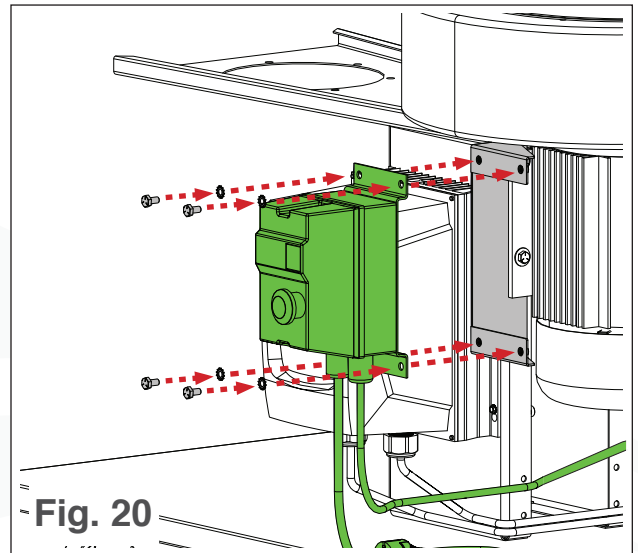

Fig. 20
2. Secure the start/stop switch to the switch mount with all four bolts and star lock washers (see Fig. 20).